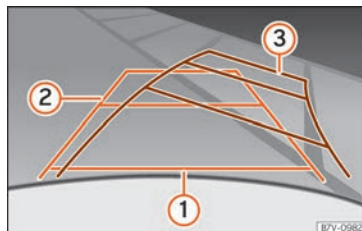

**Fig. 273** Screen: orientation lines for the parking space behind the vehicle.
Meaning of orientation lines displayed on the screen »» **Fig. 273.** All of the lengths of the orientation lines use a vehicle located on a horizontal surface as reference.
- Reverse slowly and turn the steering wheel so that the yellow orientation lines guide you towards the space » Fig. 273 ③.